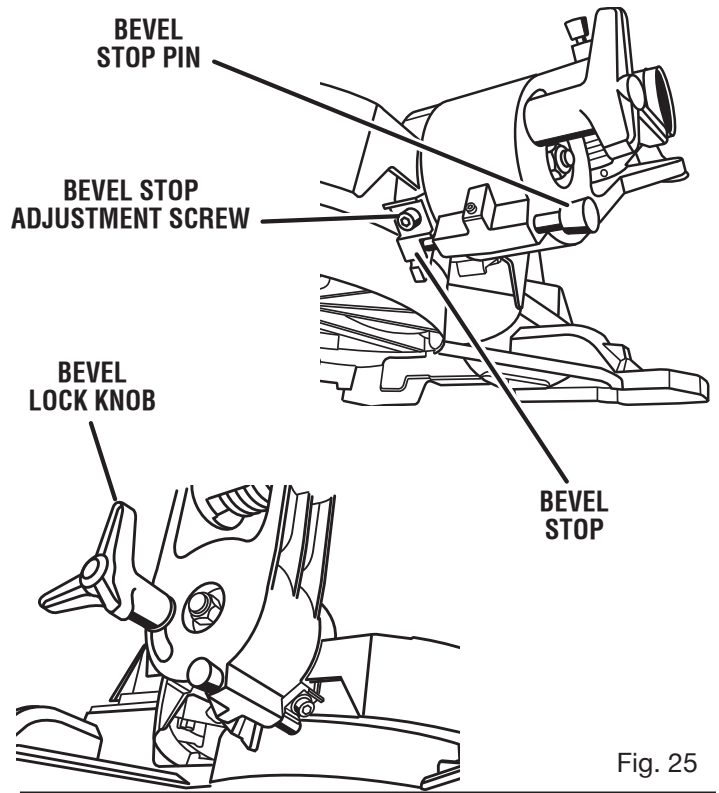

Fig. 25
- Using the blade wrench, loosen the bevel stop adjustment screw and slide the bevel stop left or right as needed to bring the saw blade into alignment with the square. Retighten bevel stop adjustment screw. See *Figure 25*.
See Figure 25.